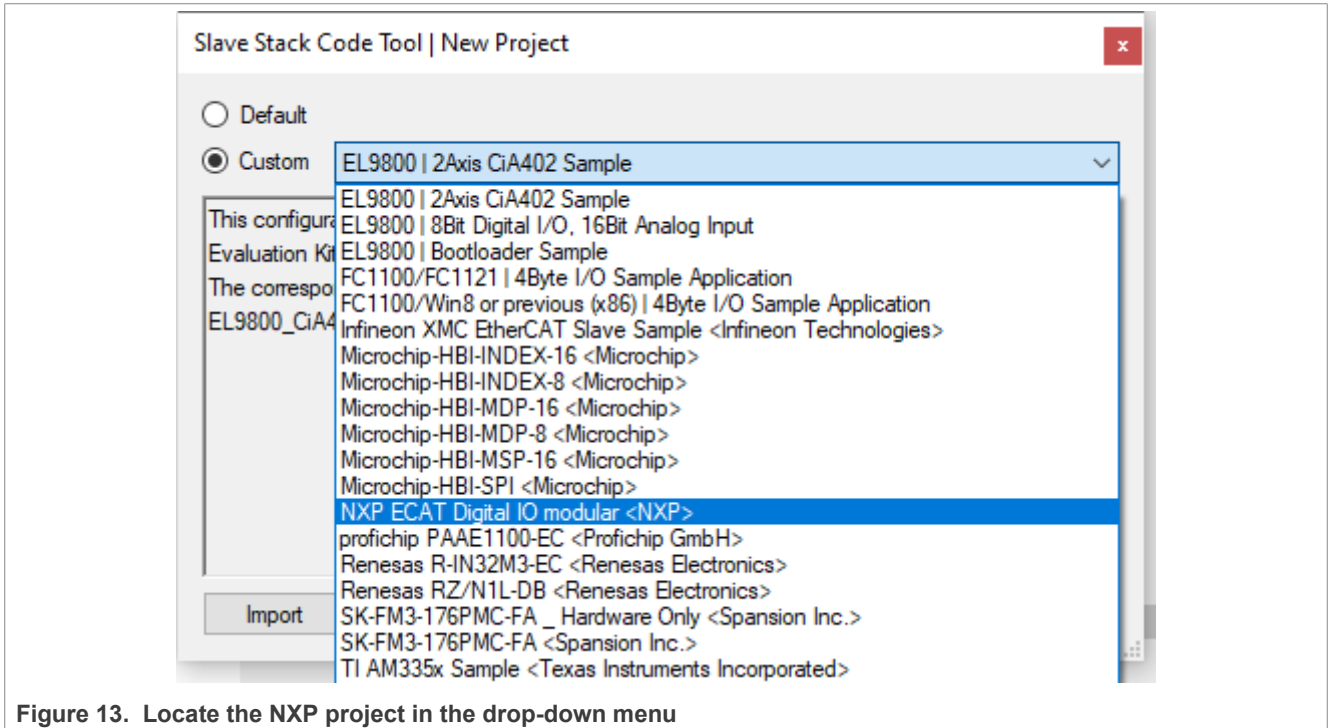

Figure 13. Locate the NXP project in the drop-down menu
5. On this stage, SSC Tool (version 5.13) successfully adds the **NXP ECAT Digital IO modular** project. This project can be located in the drop-down menu as shown in Figure 13.